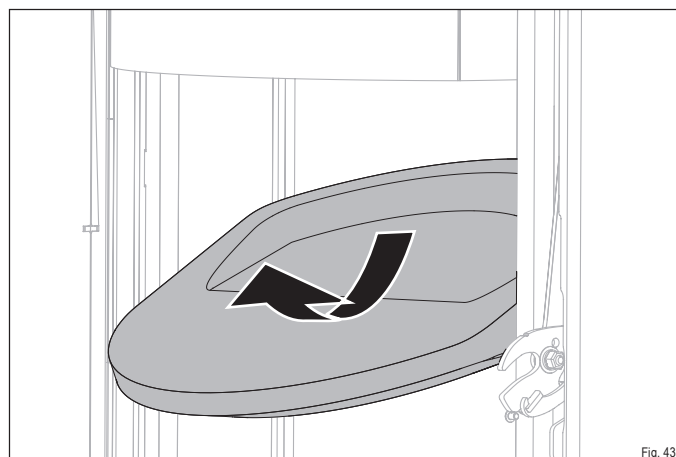

Fig. 43
- ▶ Carefully remove the firebrick from the retainer as shown (Fig. 43).